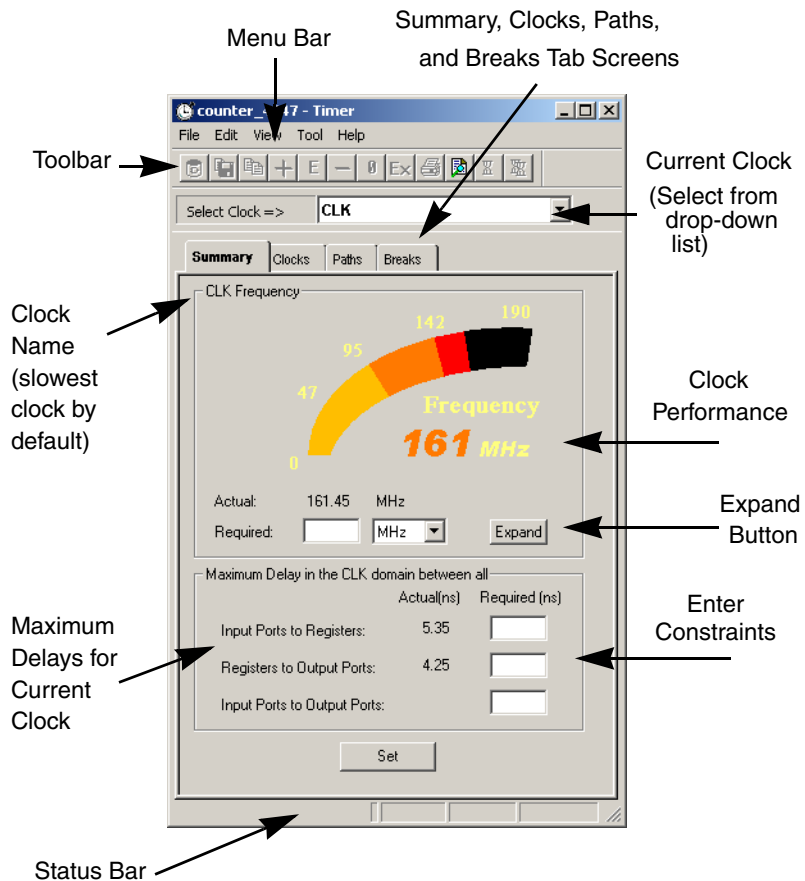
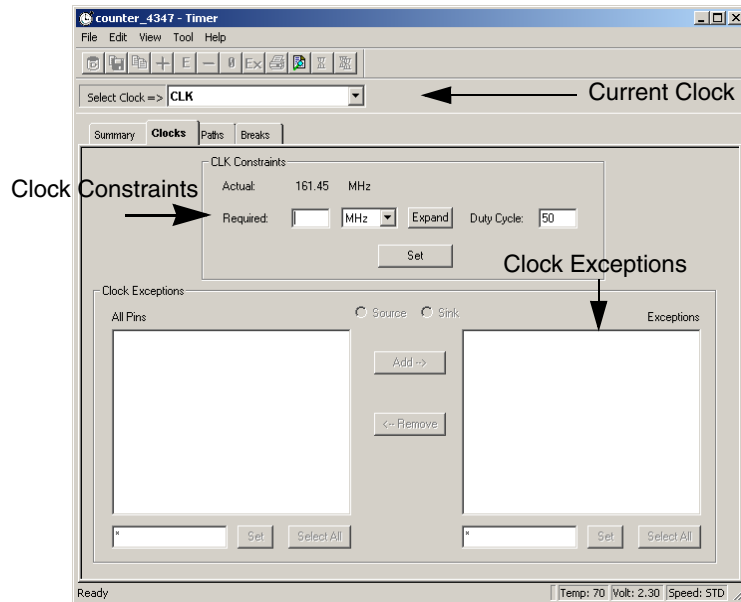

Figure 1-1. Timer Summary Tab Screen (PC only)
Figure 1-2. Clock Tab
Timer opens in a separate window, as shown in Figure 1-1 on page 10.
By default, Timer's Summary tab screen, as shown in Figure 1-1, displays the maximum frequency for the current clock selected in the current clock drop-down list box.
The Clocks tab, as seen in Figure 1-2, allows you to enter constraint information and set clock exceptions. You can also set your default clock in the Clock Selection toolbar.
- **Max Delay:** The maximum required delay specified. Do not interpret this value as the clock frequency. To set clock frequency, input on the Summary tab, or on the Clocks tab (Figure 1-1 and Figure 1-2, respectively).